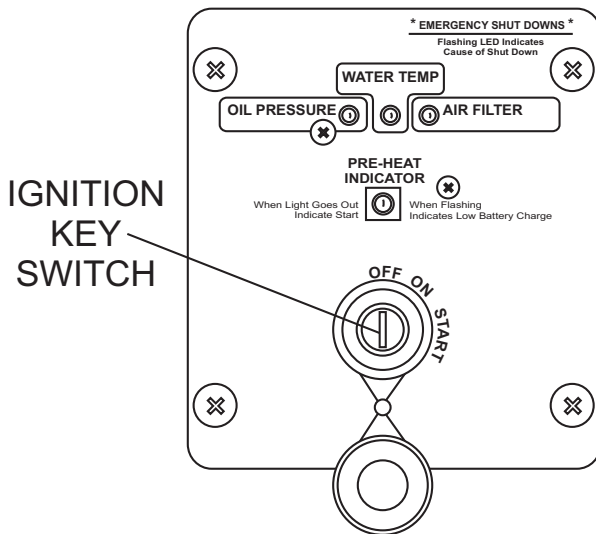

Figure 14. Ignition Key Switch (Perkins Engine)
2. Insert the ignition key into the ignition key switch (Figure 14). Turn the ignition key clockwise to the ON position. The preheat indicator lamp will light. Wait for this indicator lamp to go OFF. When the indicator lamp goes OFF, the glow plugs have been preheated and the engine can now be started.